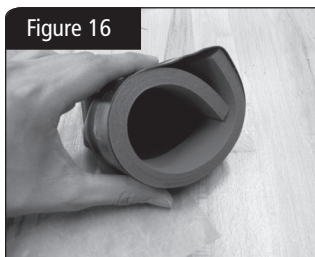

Figure 16
4. Roll the Wrist Seal replacement jig and place it into the wrist seal. See Figure 16.